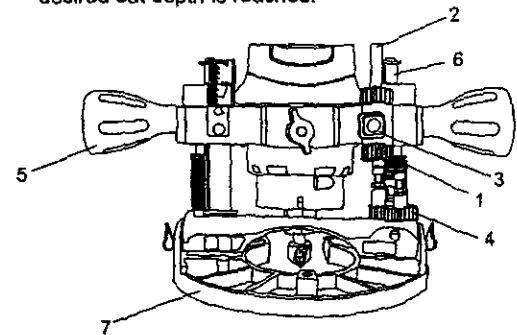

Fig. 16
1. Raise plunge router depth stop rod by turning the lower depth stop lock nut (1) counter-clockwise until it is positioned at the bottom of the depth stop rod (2) (see Fig. 16). Push depth stop quick release button (3) and raise the depth stop rod to its maximum height and then release the button.
2. Rotate plunge action turret (4) until the shortest stop screw is under the depth stop rod (2).
3. Loosen both height adjusting knobs (5) by turning them counter-clockwise.